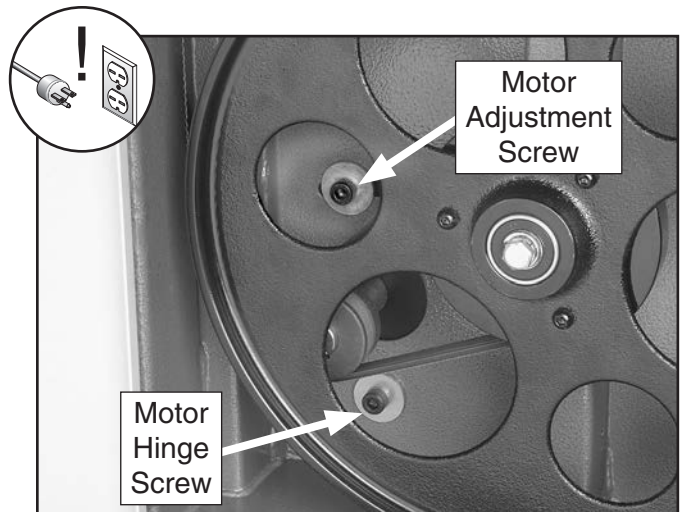

Figure 59. Motor mount screws.
3. Loosen the motor mount screws shown in **Figure 59**.
3. Loosen the motor screws shown in **Figure 59**.